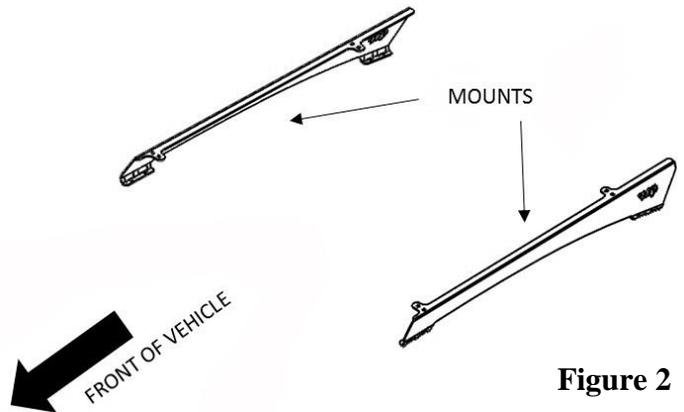

Figure 2
3. On each side of the vehicle, attach a large mount to the rear two mounting points on each side of the roof with the upper tabs of the bracket facing inboard, toward the center of the vehicle roof (as shown in Figure 2). Place the mounting bracket into the channel so that the plastic sleeves are positioned in the holes of the mount. Attach the mounts with the supplied M8 SS Button Head cap screws, lock washers, and 5/16" flatwashers. Fully tighten all 8 mounting screws.